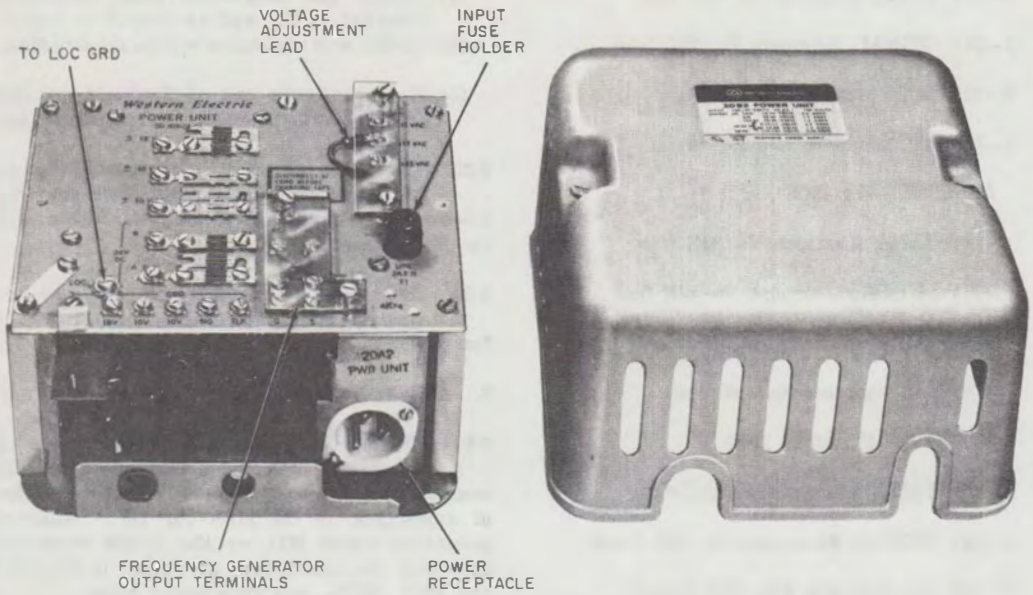
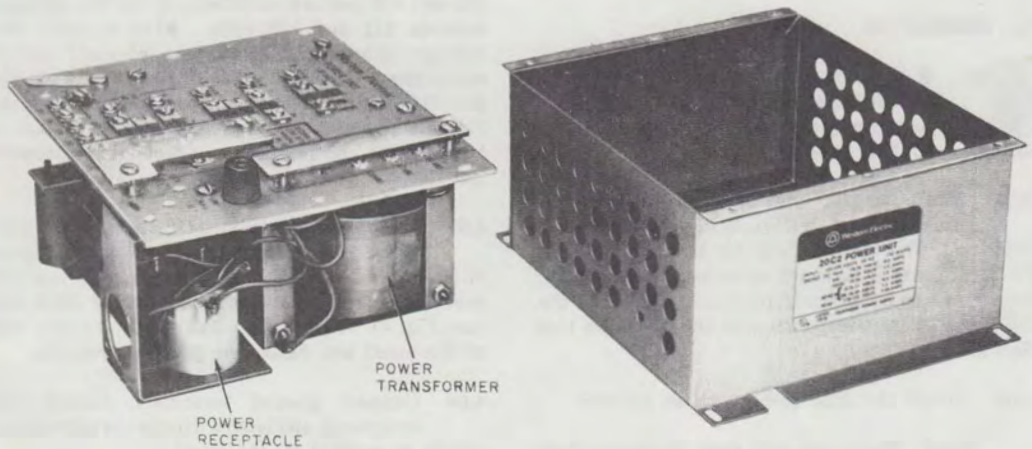

Fig. 3—20B2 Power Unit (Wall Mounted) Cover Removed
Fig. 4—20C2 Power Unit (Rack Mounted) Enclosure Removed to Show Power Receptacle
20B2—20A2 with hardware and cover for wall mounting (see Fig. 3)
20C2—20A2 with hardware for mounting in a Key Service Unit or relay rack (see Fig. 4).
2.03 The power units are equipped with a parallel blade ground receptacle. A 3-conductor power cord with male and female standard 3-prong plugs is available for connection to the input receptacle in the power unit (see Fig. 3 and 4). The cords are available in the following lengths and should be ordered separately:
- (1) Fasten the backboard plate assembly, P33A830, to the wall as covered in Section 463-130-200, or in accordance with local instructions.
- (2) Hang the power unit on the backboard and secure it with the machine screws provided.
- 3.03 The 20C2 power unit is mounted on an equipment rack using the four mounting holes on the metal enclosure (Fig. 4). Fasten with the machine screws provided.
- 4.03 Place wiring (supplying telephone equipment) through the plastic grommet at the bottom of the 20B2 unit (Fig. 3) and through the slot provided on the mounting flange on the 20C2 unit (see Fig. 4). Dress the wires along the left side of the panel and below the ground terminals.